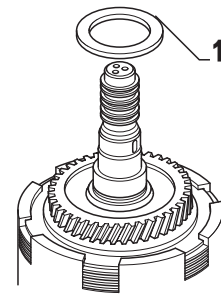

FIG. 1-3
Position shaft assembly on suitable holding fixture. Using a tube with a bore dia. of 35 mm/1.38 in and a plastic hammer gently drive thrust washer in position. (item 1 Fig. 1-3). Repeat same procedure on opposite side.